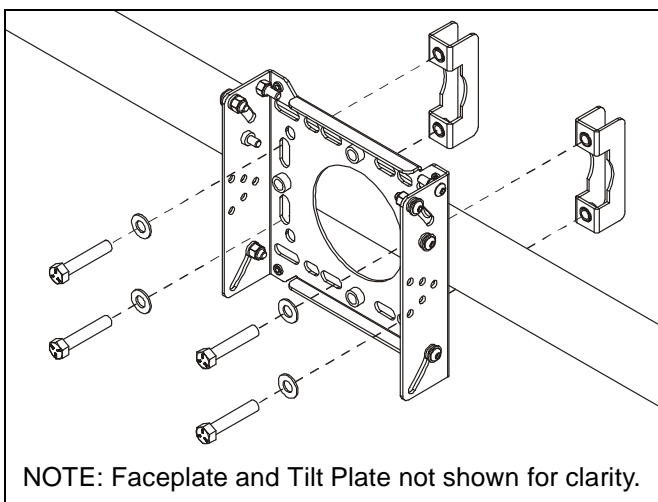
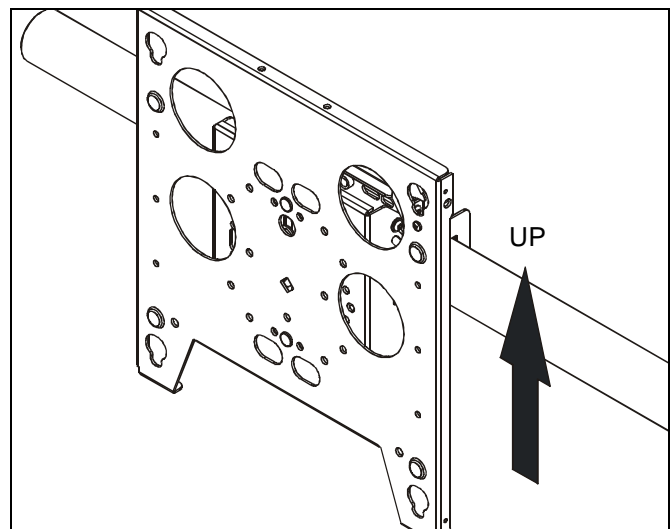

Figure 3: Horizontal Pole Installation (Typical)
Figure 5: Horizontal Mount Orientation
- Horizontal Pole: Use optional Chief Pole Kit TPK-1 (for 1"-2" O.D. poles)(see Figure 3). Ensure mount is properly oriented (see Figure 5).